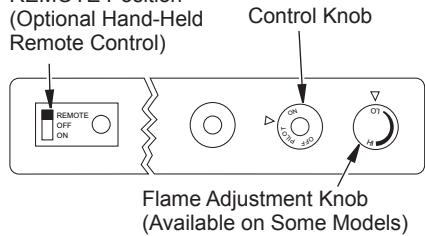

Figure 5 - Setting the Selector Switch, Control Knob and Flame Adjustment Knob (Available on Some Models) for Hand-Held Remote Operation
1. After lighting, let pilot flame burn for about one minute. Turn control knob to ON position. Adjust flame adjustment knob anywhere between HI and LO. Slide the selector switch to the REMOTE position (see Figure 5). **Note:** The burner may light if hand-held remote was on when selector switch was last turned off. You can now turn the burner on and off with the hand-held remote control unit. **IMPORTANT:** Do not leave the selector switch in the REMOTE or ON position when the pilot is not lit. This will drain the battery.